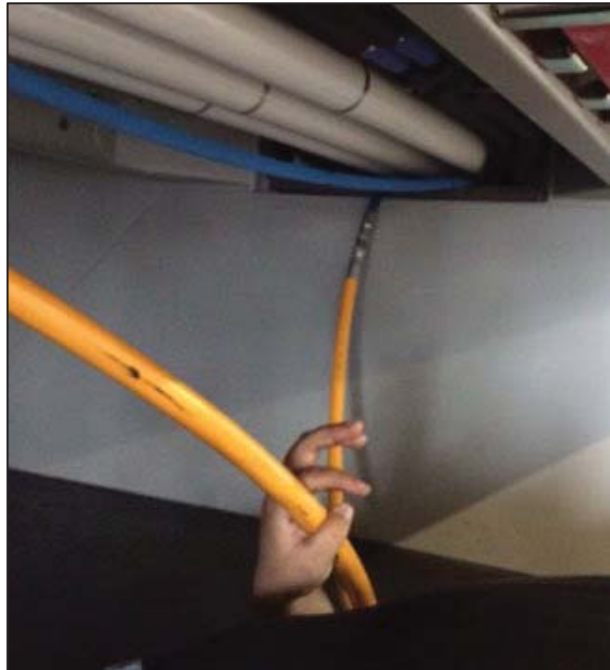

Figure 9
9. Still from the first luggage bay, assist a colleague by guiding the new hose into the spare tire compartment while he continues removing the existing hose. (Fig. 9, 10)